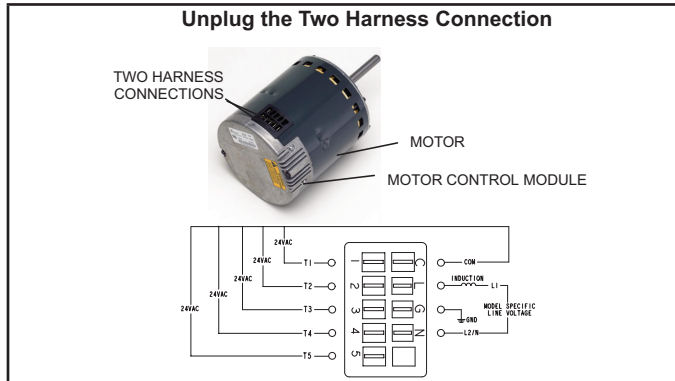

FIGURE 15
- 3 - Unplug the two harnesses from the motor control module. See figure 15.